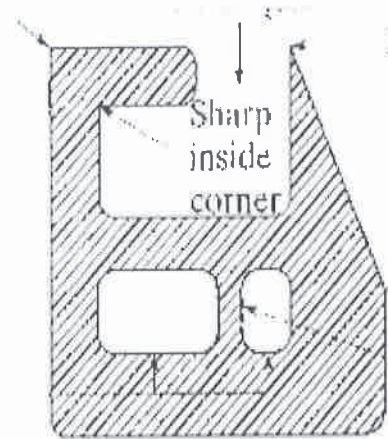

Figure ex2
- b) Figure ex2 shows an unbalanced cross section for a part to be extruded. What would happen if this problem is not addressed? What are other issues with this design as far as extrusion process is concerned?